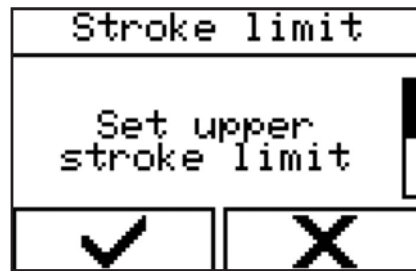

Figure 97 - Selecting a menu
1. Select the menu via 'Control' → 'Stroke limit' → 'Set upper stroke limit' (Figure 97).